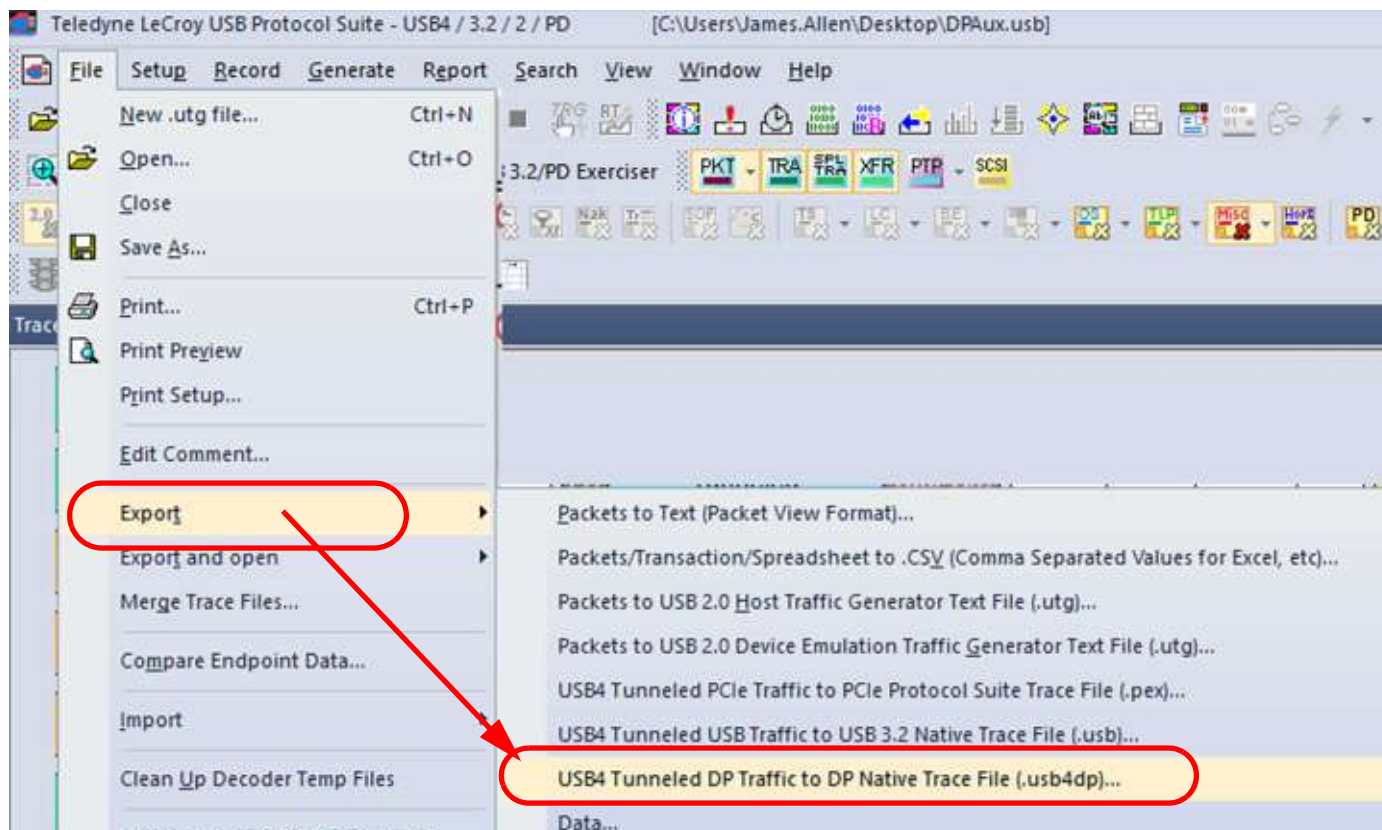

Figure 4.15: Export USB4 Tunneled DP traffic to DP Native Trace
If you have captured Data Port (DP) traffic in a USB4 trace, you can export the USB4 tunneled DP traffic to a DP Native Trace using the Export function in the USB Protocol Suite software. See Figure 4.15.